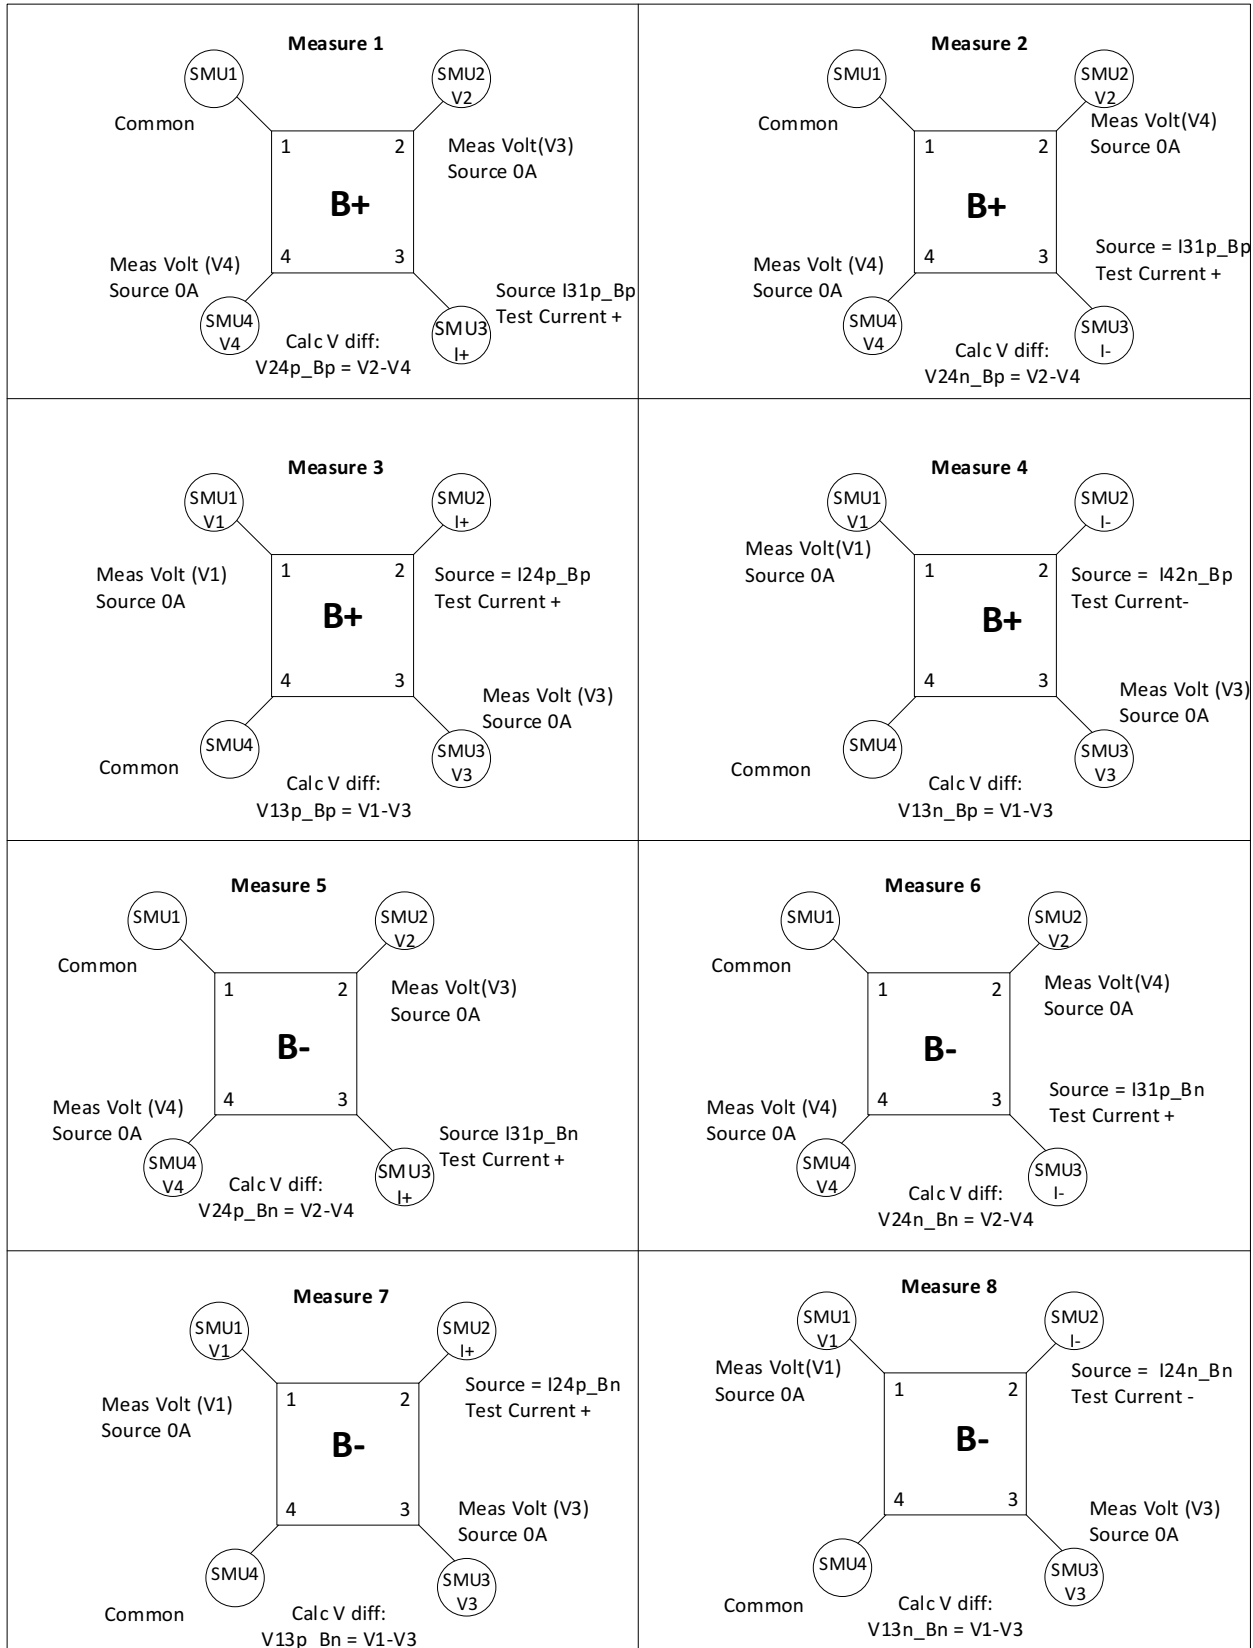

FIGURE 10. SMU configurations for the eight Hall voltage measurements.
- After OK is pressed, then the four measurements are repeated with B-. These measurements are also defined in **Table 3 and illustrated in Figure 10**.